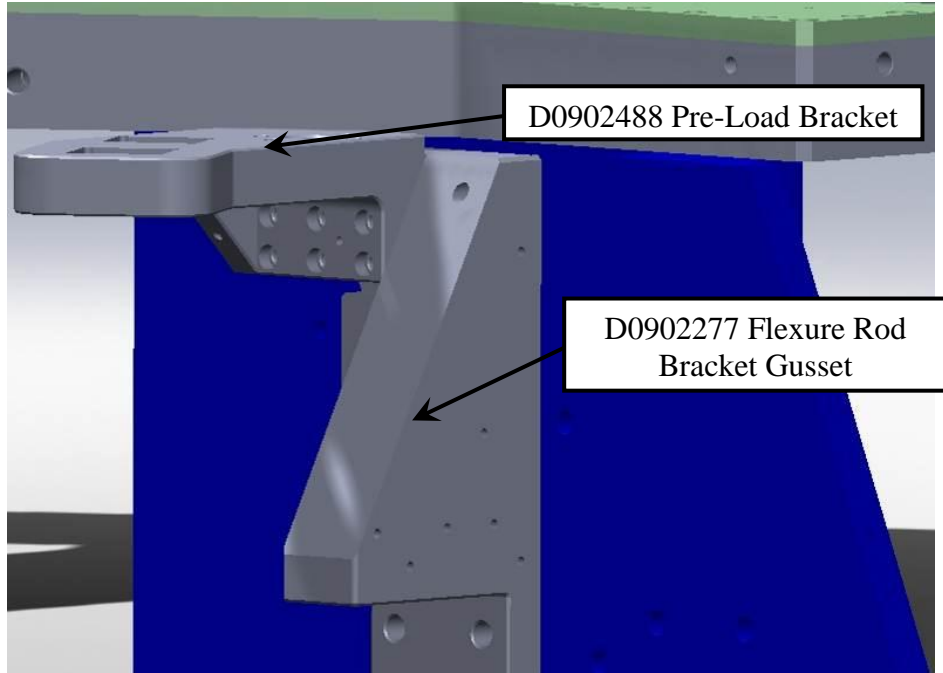

Figure 105: D0902488 Pre-Load Bracket assembled with D0902277 Flexure Rod Bracket Gusset
(6) 5/16 Vented Washers - UCC_WFV-31
- Locate D0902488 Pre-Load Bracket onto the D0902277 Flexure Rod Bracket Gusset with the (2) pins already installed in D0902488 (see Figure 105). Make sure pins seat properly into mating hole and slot.